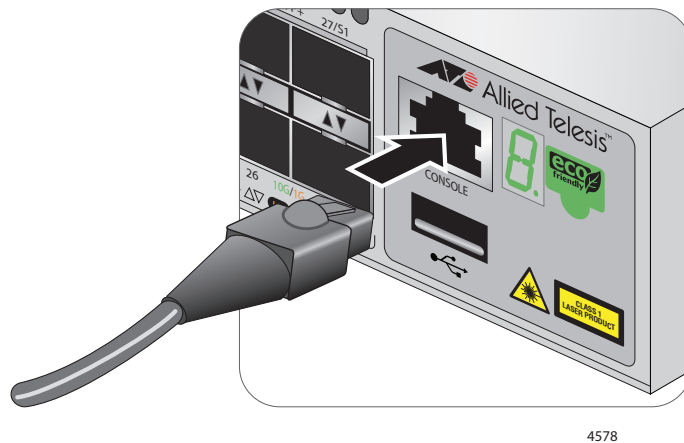

Figure 46. Connecting the Management Cable to the Console Port
1. Connect the RJ-45 connector of the management cable to the console port on the front panel of any switch in the stack. Refer to Figure 46.